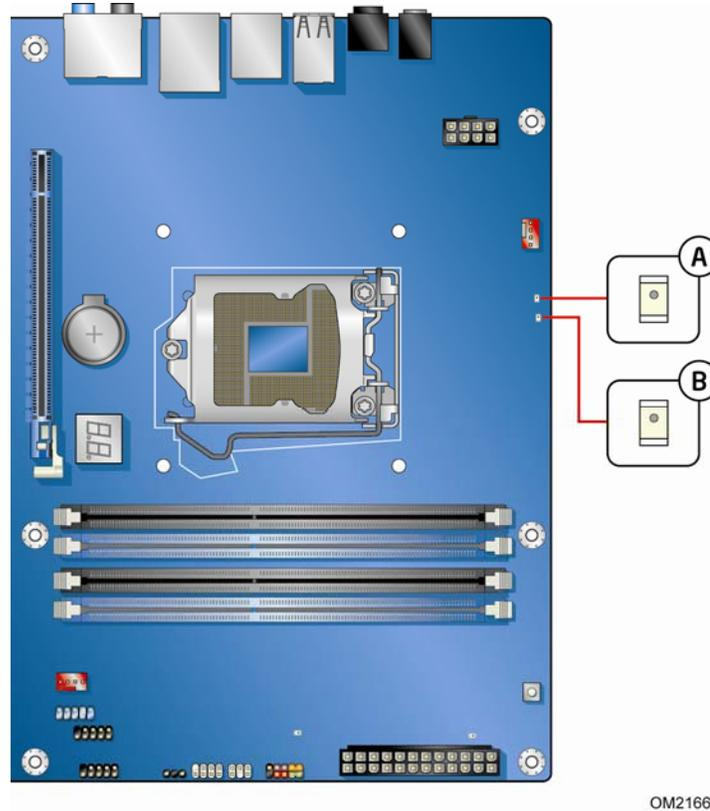

Figure 6. Location of the Processor and Voltage Regulator LEDs
The Desktop Board contains two red LEDs (see Figure 6) that indicate the status of the board's voltage regulation circuitry and the processor:
- The Processor LED (Figure 6, A) indicates an elevated temperature on the processor that could affect performance.
- The Voltage Regulator LED (Figure 6, B) indicates an elevated temperature in the processor voltage regulator circuit that could affect performance.